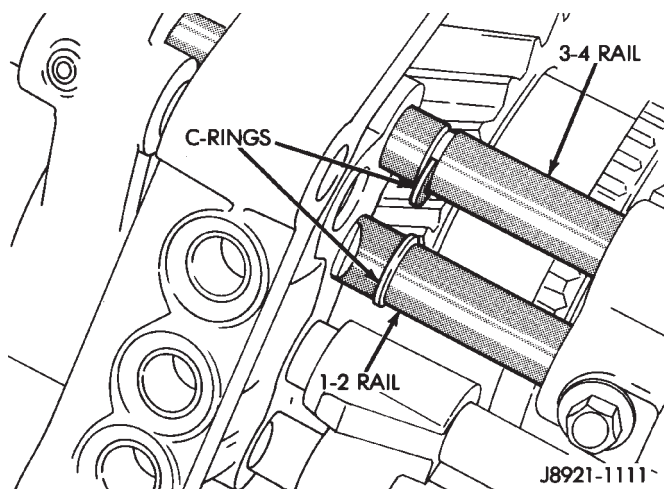

Fig. 96 Installing Shift Rail C-Rings
(13) Install 1-2 and 3-4 shift rail C-rings (Fig. 96).